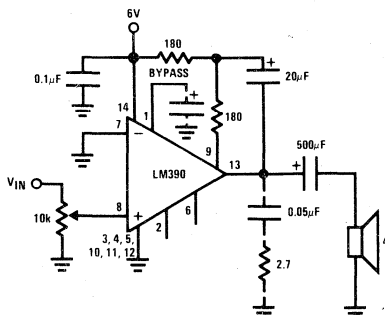

FIGURE 1. Load Returned to Ground
**electrical characteristics**  $T_A = 25^\circ\text{C}$ , (Figure 1)